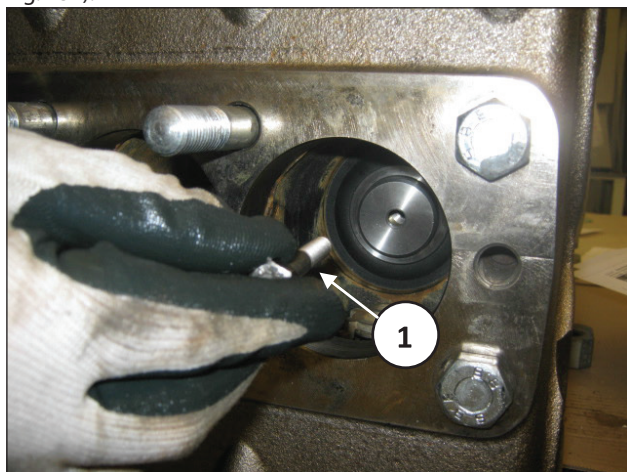

Fig. 130
Unscrew the M8 screws that secure the piston unit and remove it together with the seal fastening bush (pos. ①, Fig. 130).